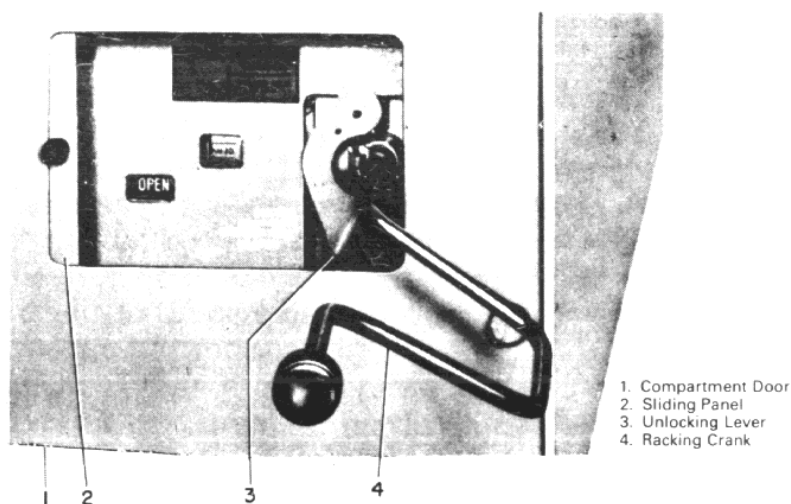

Fig. 5 — Method of Racking Circuit Breaker
2. Engage racking crank (4, Figure 5) and push racking unlocking lever (3) to left, then rotate racking crank counterclockwise only until resistance to motion is felt. (DO NOT FORCE.)
5. To rack circuit breaker to "TEST" position, push racking unlocking lever (3, Figure 5) to left, rotate racking crank approximately 1/4 turn clockwise, then release unlocking lever. Continue cranking until racking mechanism automatically stops at "TEST" position.
FOR SAFETY: When racking circuit breaker to "CONNECTED" position, close compartment door (1, Figure 5) and insert racking crank (4, Figure 5) through sliding panel (2, Figure 5).
4. CIRCUIT BREAKER REMOVAL (See Figure 5)